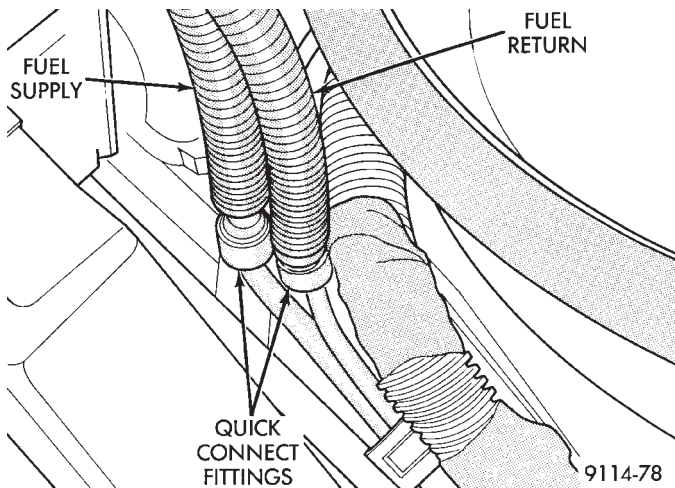

Fig. 9 Fuel Supply and Return Hose Connections
(11) Remove fuel supply and return hose quick connect at fuel tube assembly (Fig. 9).
(3) Inspect quick connect fittings for damage, replace if necessary. Refer to Fuel System, Group 14 for procedure. Lube tube with clean 30w engine oil. Connect fuel supply and return hoses to chassis tube assembly. Check connection by pulling on connector to insure it locked into position (Fig. 9).